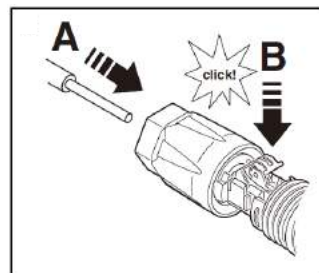

Figure 5-11
- 4) Carefully insert the stripped litz wires all the way in(Figure 5-11, A). The litz wire ends have to be visible in the spring.
- 5) Close the spring making sure that the spring is snapped in(Figure 5-11,B).